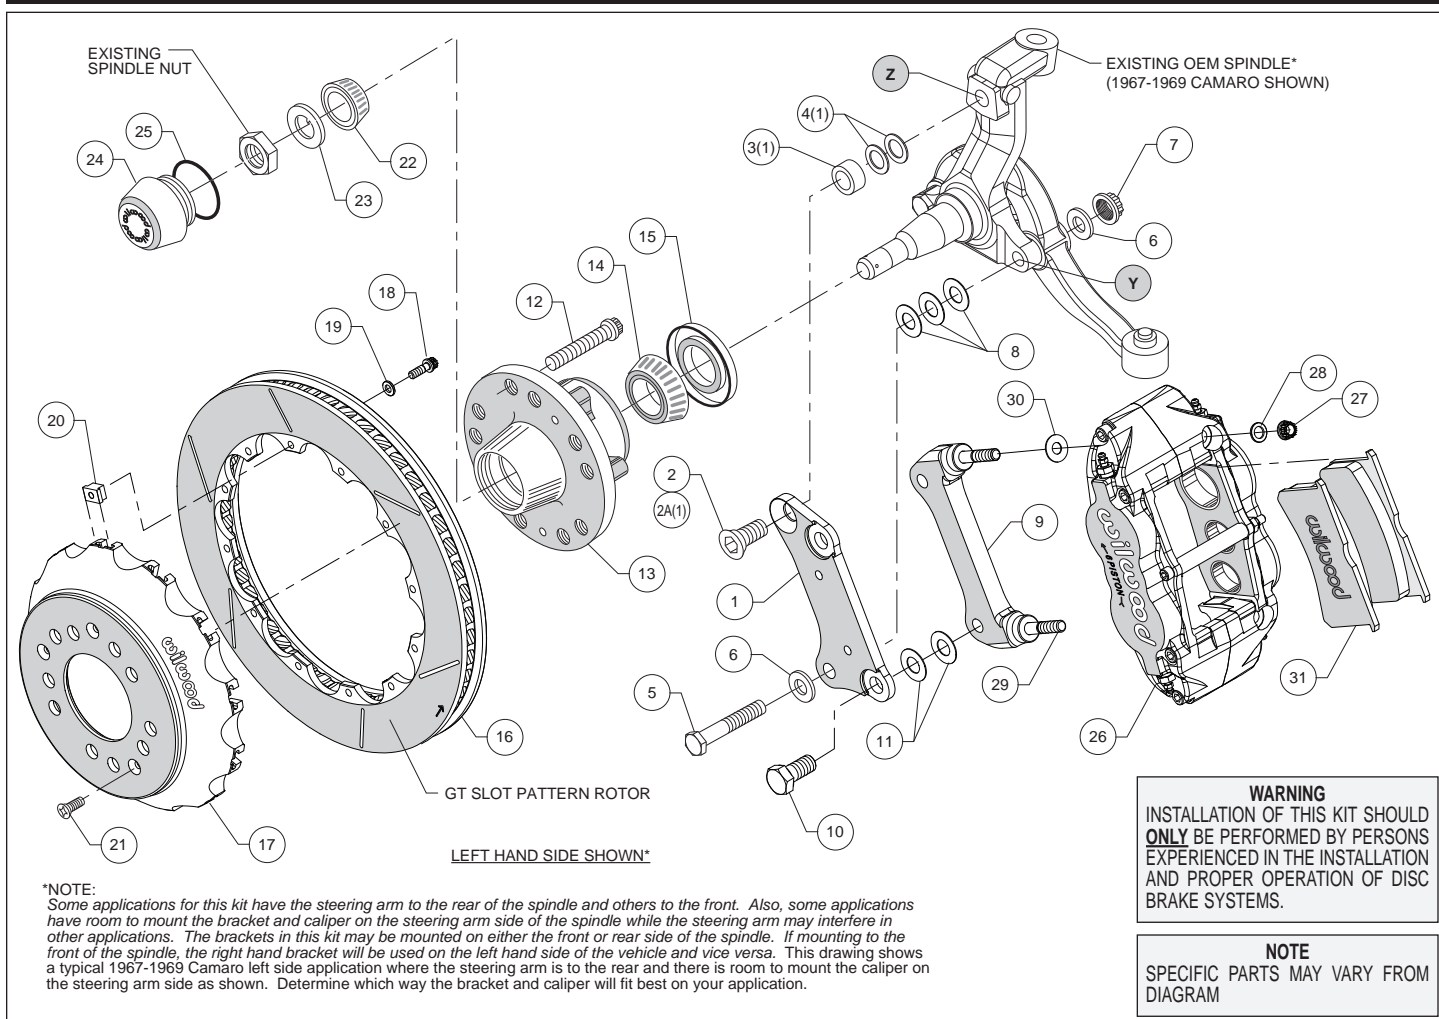
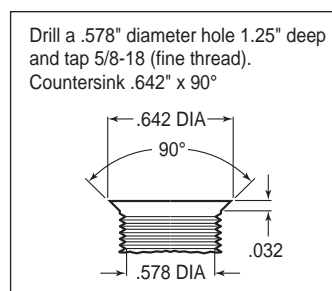
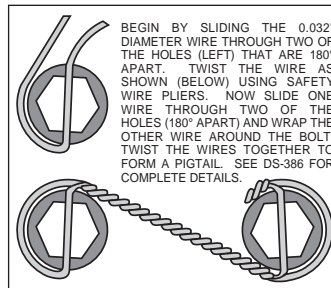

Figure 1. Typical Installation Configuration
Figure 3. Drill and Tap Detail
Figure 4. Safety Wire Diagram
**Assembly Instructions** (numbers in parenthesis refer to the parts list on the preceding page, and Figure 1):
•**NOTE:** Some applications for this kit have the steering arm to the rear of the spindle and others to the front. Also, some applications have room to mount the bracket and caliper on the steering arm side of the spindle while the steering arm may interfere in other applications. The brackets in this kit may be mounted on either the front or rear side of the spindle. If mounting to the front of the spindle, the right hand bracket will be used on the left hand side of the vehicle and vice versa. Figure 1 shows a typical 1967-1969 Camaro left side application where the steering arm is to the rear and there is room to mount the caliper on the steering arm side as shown. Determine which way the bracket and caliper will fit best on your application.
•**NOTE:** Some spindles in this year range may require the following modifications (reference Figure 1 and Figure 3): Top anchor pin hole (Z) must be drilled and tapped to the dimensions as outlined in Figure 3. The lower bolt hole (Y) in the spindle used to mount the new caliper bracket, and the mating steering arm hole, must be enlarged to .50" by drilling. It is recommended these modifications be performed by a qualified machinist.
•Install wheel studs (12) into the hub (13), Photo 1. Torque to 77 ft-lb. **NOTE:** There are two five lug patterns in the hub (5 x 4.50 and 5 x 4.75). Ensure the correct hub stud pattern is being used to fit the wheel application.
•Pack the large inner bearing cone (14) with high temperature disc brake bearing grease (available from your local auto parts store) and install into the backside of the hub (13).
•Install the grease seal (15) by pressing into the backside of the hub (13), Photo 2.
•Orient the rotor (16) and the hat (17) as shown in Figure 1 and Photo 3. Attach rotor to hat using bolts (18), washers (19), and t-nuts (20). Follow additional instructions included with the bolt kit. Using an alternating sequence, apply red *Loctite*® 271 to the threads, and torque to 120 in-lbs. Safety wire bolts using standard 0.032 inch diameter stainless steel safety wire as shown in Figure 4. Please refer to Wilwood's data sheet DS-386 (available at [www.wilwood.com/Pdf/DataSheets/ds386.pdf](http://www.wilwood.com/Pdf/DataSheets/ds386.pdf)) for complete safety wire installation instructions.
•**Disc Brake Spindle Application Only:** Follow the instructions below, but instead use bolt (2A), spacer (3), and two .050" thick shims (4) in the upper bolt hole location, Figure 1.
•Orient the flat bracket (1) as shown in Figure 1 and Photo 4, and install using bottom bolt (5), washers (6), and nut (7), Figure 1. Initially place three .032" thick shims (8) between the bracket and spindle. Install the upper bolt (2 or 2A). Temporarily tighten bolts. **NOTE:** The bracket must fit squarely against the mounting surfaces on the spindle. Inspect for interference from casting irregularities, machining ridges, burrs, etc. Temporarily install the new hub, hat and rotor assembly. Check that the bracket is aligned parallel to the rotor, Photo 5. If not, adjust by adding or subtracting shims (8) on the lower bolt between the bracket and spindle, Figure 1. Once the bracket alignment is correct, remove the upper bolt (2 or 2A), apply red *Loctite*® 271 to the bolt threads, and torque to 140 ft-lb. Torque the lower lock nut to 65 ft-lb.
•The radial mount caliper bracket (9) should initially be installed with clean, dry threads on the mounting bolts. Orient the bracket as shown in Figure 1 and Photo 6, and install using bolts (10). Initially place two .029 thick shims (11) on each bolt between the two brackets, Figure 1. Temporarily tighten the mounting bolts. Later, after the caliper alignment has been checked, the mount bolts will be secured using red *Loctite*® 271.
•Pack the small outer bearing cone (22) with high temperature disc brake bearing grease and install into hub (13). Final install the hub assembly onto the spindle. Secure using spindle washer (23) and OEM spindle nut, Photo 7. Adjust bearings per OEM specifications. Install saved OEM nut lock (if any) and a new cotter pin (not included).
•Screw dust cap (24) into hub (13). Friction created by the o-ring (25) on the dust cap keeps it from unscrewing. **NOTE:** The O.D. of the existing OEM spindle washer may be larger than the I.D. of the dust cap not allowing it to seat against the hub face. Therefore, use the spindle washer (23) supplied with the kit instead of the OEM washer.
•Final install the rotor (16 and 17) assembly onto the hub (13), taking care to align the small countersunk holes in the hat with the small threaded holes in the hub. **NOTE:** The hat must fit flush against the hub face or excessive rotor run out may result. Install three flat head screws (21) through the small holes in the hat (17), Photo 8, and torque to 85 in-lb.
•**NOTE:** This kit contains distinct right and left hand calipers that must be mounted in a specific direction, as described below. Lubricate the caliper mounting studs (29) with lightweight oil. Initially place one .035" thick shim (30) on each stud between the caliper and the bracket, as shown in Figure 1 and Photo 9. Mount the caliper (26) onto the bracket (9) using lock nuts (27) and washers (28), Figure 1. Ensure that the caliper is mounted so the largest pistons are at the rotor exit end of the caliper, in relation to the direction of rotor rotation. Temporarily tighten the lock nuts. The rotor should be centered in the caliper, Photo 10. If not, adjust by adding or subtracting shims (11) between the flat bracket (1) and the caliper bracket (9). Always use the same amount of shims on